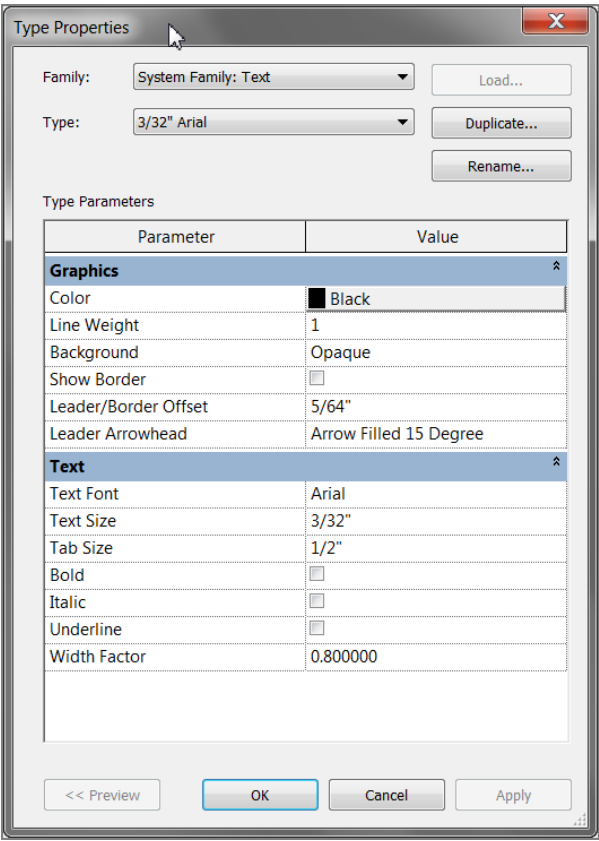

FIGURE 5.52: Changing that ugly arrow
- 2. Change the Leader Arrowhead parameter to Arrow Filled 15 Degree, as shown in Figure 5.52.